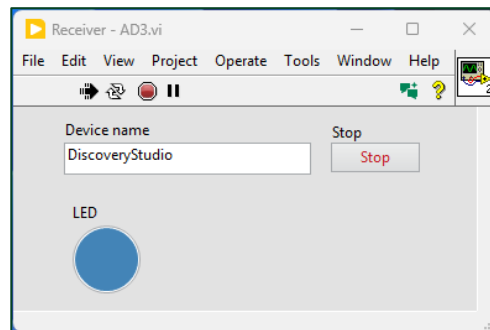

Figure 10. Receiver VI Front Panel
- 2.7. Modify the front panel shown in **Figure 10**. Inside **Device name** String Control write your corresponding **Device** name from **Table 2**.